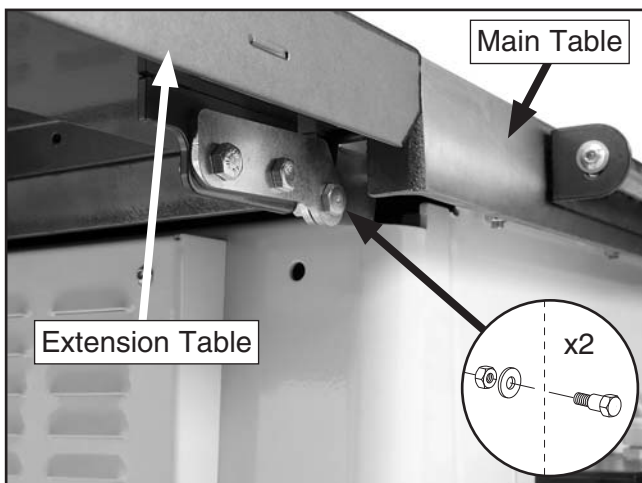

Figure 14. Extension table attached.
3. Attach the extension table to the main table with shoulder bolts, flat washers, and hex nuts through the brackets at each end. Do not yet fully tighten these fasteners (**Figure 14**).